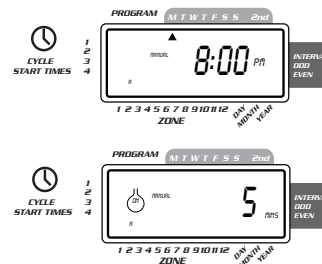

FIGURE 14: Manual Watering Station 3 for Five Minutes
- To skip a station, press **NEXT** until the cursor is blinking over the station number you wish to program. Example: To set station 3 for five minutes, press the **MANUAL** key; then press the **NEXT** key five times to select the manual operation mode and advance to watering for station 3; using the **+** or **-** key, set the manual watering duration to five minutes; then press **ENTER** [See Figure 14].